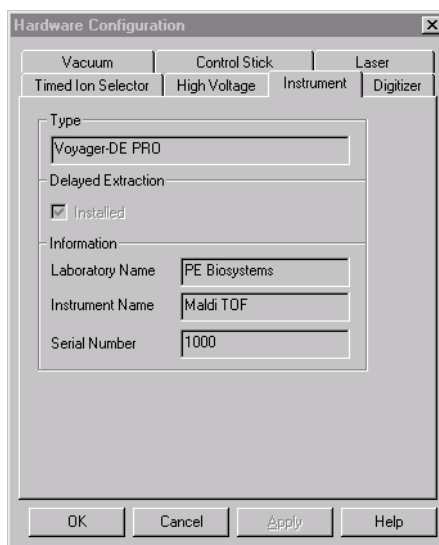

Figure 2-18 Instrument Configuration
2. Click the **Instrument** tab to display the Instrument page (Figure 2-18).